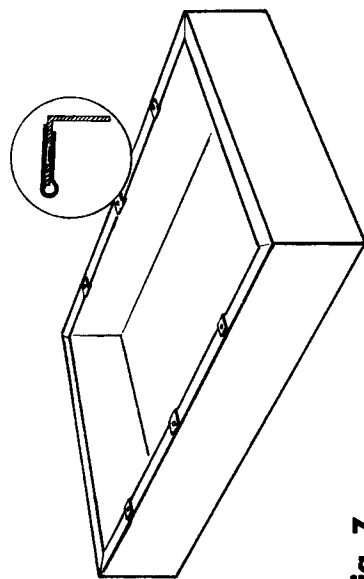

Fig. 7
- ( ) 4. Press a No. 8 tinnerman speed nut in place over each hole on the bottom flange of the chassis. (See Figure 7).